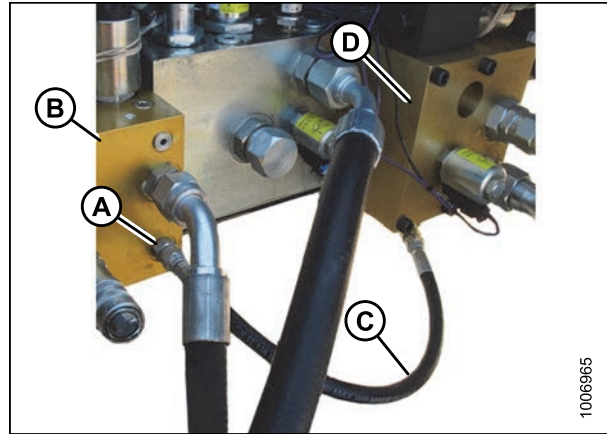

Figure 4.52: Connected Jumper Hose
2. Disconnect jumper hose (B) from 90 degree fitting (C) at port R4 on the reverser valve block (A).
3. Rotate 90 degree fitting (D) under reverser valve block so that hose can be routed to port C2 at (C) as shown in figure 4.52: *Connected Jumper Hose*, page 124 on the next page.